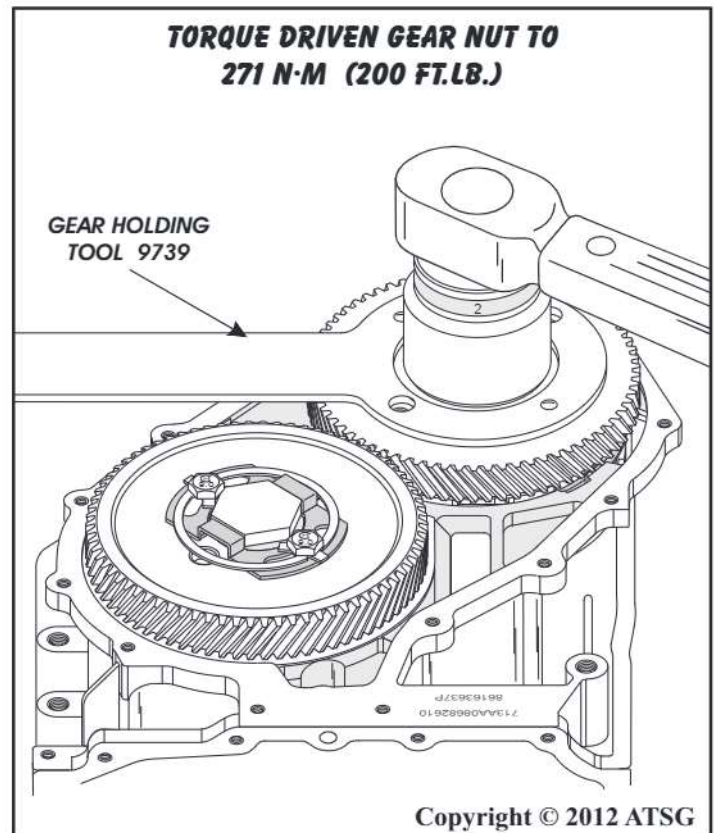

Figure 238
18. Torque the nut to 271 N·m (200 ft.lb.) using the gear holder tool 9739, as shown in Figure 238.